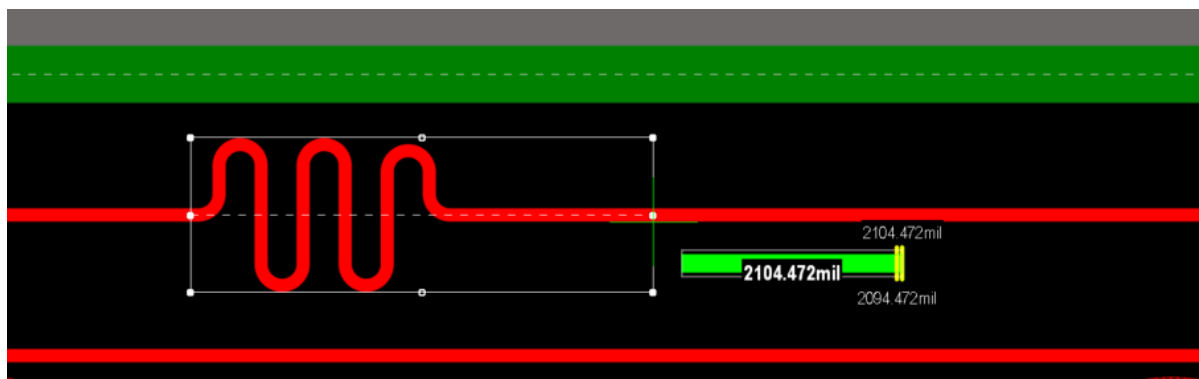

Figure 14. Using the Length Guide Indicator
32. To ensure that you're adhering to the Length rule, you can use the *Length Guide Indicator* to help you achieve the proper length. This guide can be enabled/disabled using the **SHIFT+G** shortcut keys while tuning as shown in Figure 14.